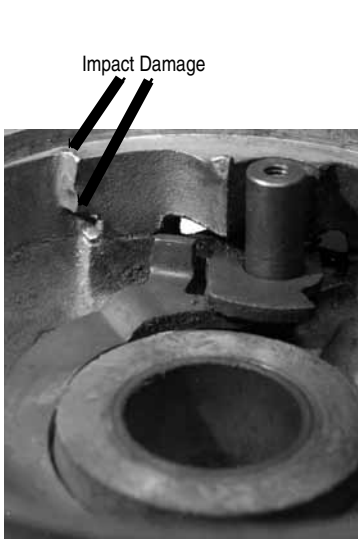

FIG. 1
- (1) Examine "stop surfaces" for impact damages caused by such improper practices as allowing handle to self-ratchet, and "slamming" the handle unnecessarily during use. Refer to fig. 1.